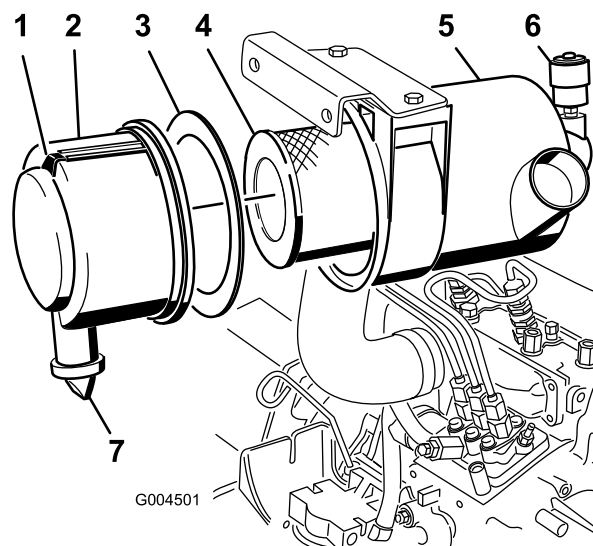

Figure 64
- Service the air cleaner filter when the air cleaner indicator (Figure 64) shows red or every 400 hours (more frequently in extremely dusty or dirty conditions). Do not over service the air filter.
- Pull the latch outward and rotate the air-cleaner cover counter-clockwise (Figure 64).
- Remove the cover from the air-cleaner body (Figure 64).